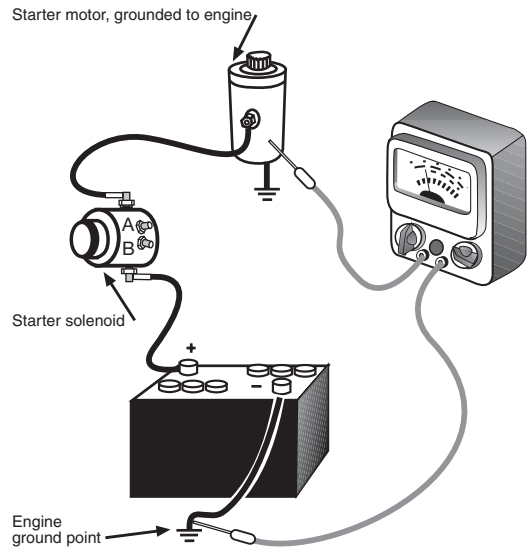

Figure 6-12. Starter circuit voltage-drop test—Step 4.
**Step 4.** Finally, we'll check for a voltage drop at the end of the run, at the starter motor itself. Hook up the meter as shown in Figure 6-12 and turn the key to the crank position. Your voltage-drop reading should be less than 0.3 volt. Again, if the reading is above this, either a connection is bad at the engine or negative battery post or the cable is undersized—it should be the same size as the main positive-feed cable.